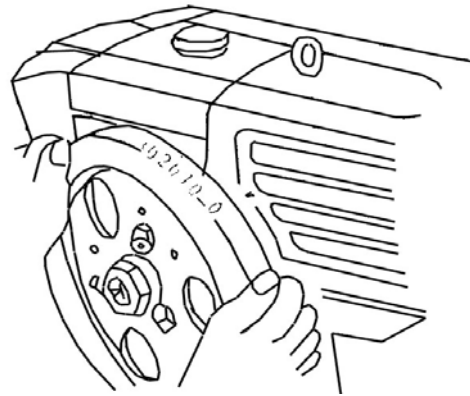

Fig 13 Piston located in top dead center
(1) Turn the flywheel slowly with hand until you feel dragging.
(2) Turn the decompression lever to pull the compressed air out turn the flywheel a further quarter revolution until its TDC mark is in line with the pointer on the hopper or fan cover, it denotes that two valves are closed (See Fig. 13).